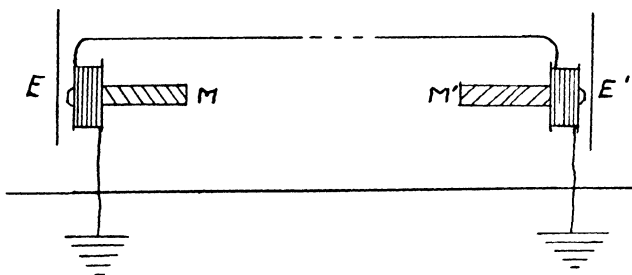

FIG. 13.
**The Theory.**—The operation of the telephone in reproducing sound waves will become clear from a consideration of Fig. 13 which represents a very simple form. Two soft iron discs, E and E', are mounted close to the ends of two